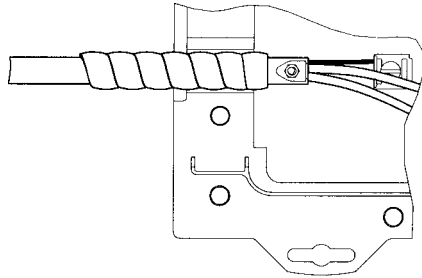

FIGURE 12 - SECURE STRENGTH MEMBERS IN HOLD-DOWN CLIP
6.10 Slide the strength member(s) under the cap of the strength member hold-down clip and tighten. (Figure 12)